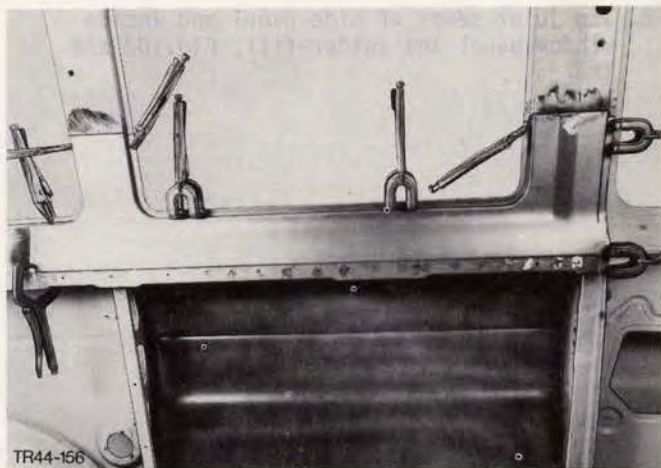

Fig.159. Secure new inside window panel with clamps.
22. Position new inside window panel and secure with clamps, Fig.159.